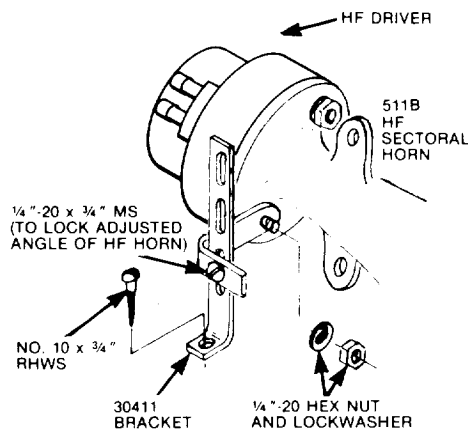

Figure 5. HF Driver and Horn Assembly
- Assemble 511B HF Horn, 902-8B HF Driver and 30411 Horn Mounting Bracket as shown in Figure 5. Be sure gasket is properly positioned between horn and driver before installing two 1/4"-20 hex nuts and lockwashers. Assemble two parts of 30411 Horn Mounting Bracket, using
the 1/4"-20 x 3/4" machine screw, lockwasher and nut indicated in Figure 5; do not tighten nut.
- Secure 30411 bracket to 828G Horn Cabinet with No. 10 x 3/4" wood screw. See Figures 5 and 6.